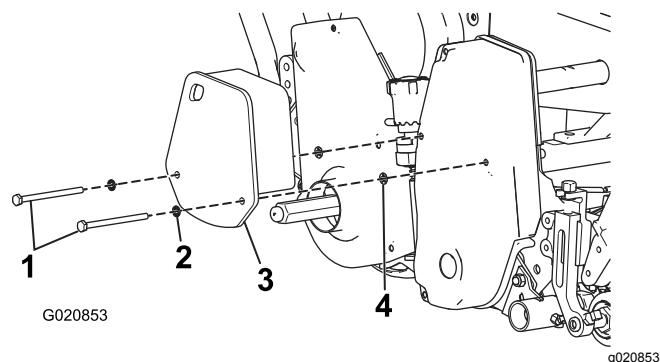

Figure 21
- Greensmaster 1000/1600 mowers—install the cover using the upper and lower bolts removed previously and the weight and new fasteners as shown in Figure 21. Use the fastener retainers as required by your local codes.